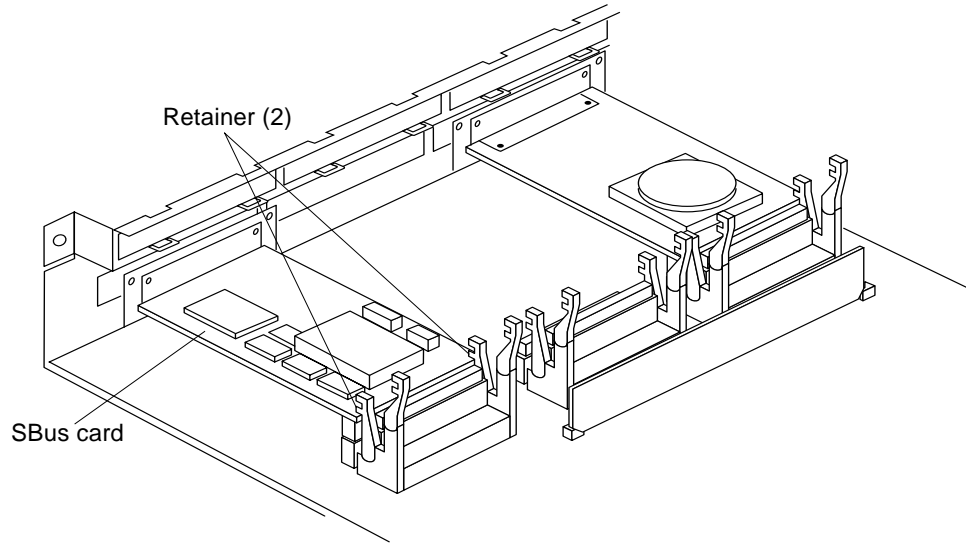

FIGURE 11-11 SBus Card Retainers
3. Unlock the retainers at the back edge of the SBus card (FIGURE 11-11).